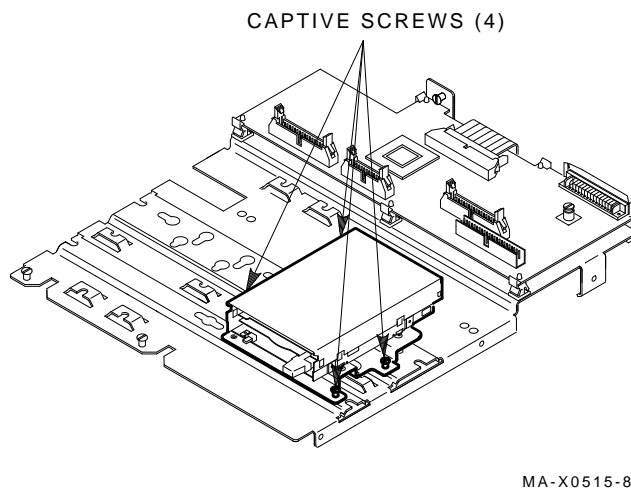

Figure 1-7 Mounting the RX23 Diskette Drive
2. Position the RX23 on the drive plate (Figure 1-7) and tighten the four mounting screws.